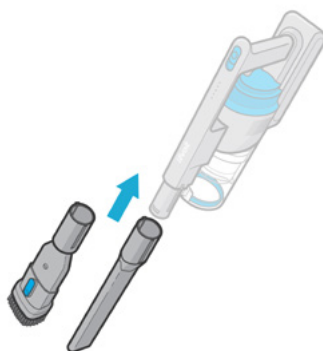

Figure 2.2
2. Slide the crevice nozzle or 2-in-1 brush nozzle onto the vacuum body [\[Figure 2.2\]](#).